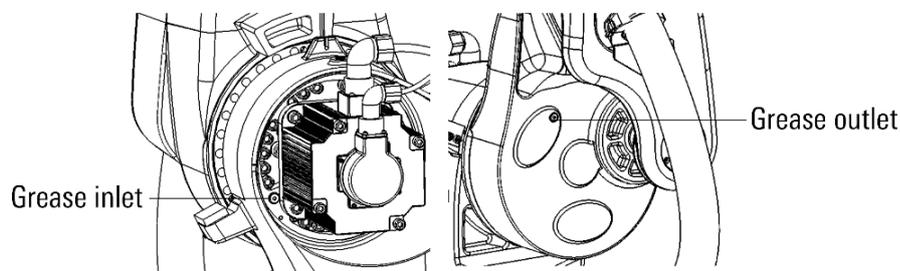

Figure 12-9 Large load manipulator replacement of J2 axis reducer grease
- Step4. Remove the grease outlet M10x1 plug, as shown in Figure 12-9.